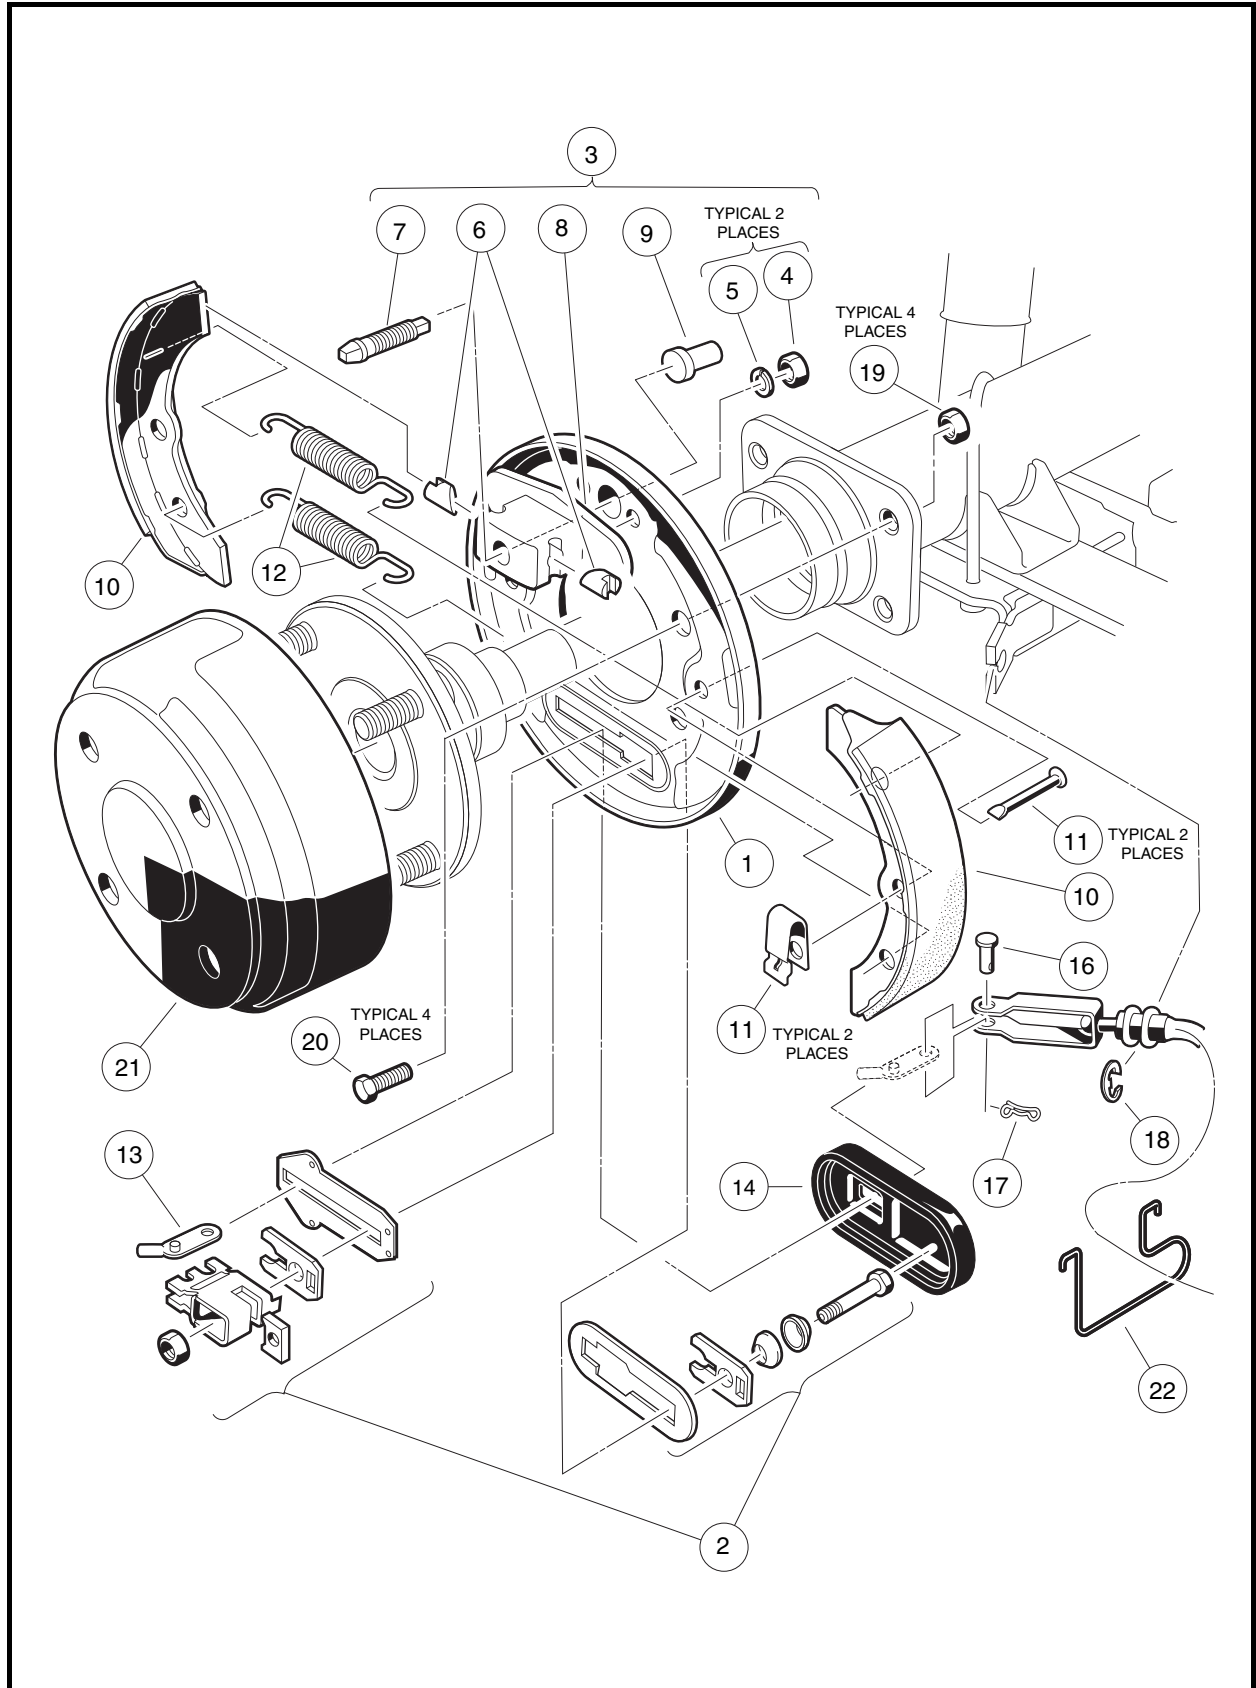

Figure 6-31 Rear Manually-Adjusted Brake Assembly
5. Remove cotter pin (17) and clevis pin (16) from brake cable (**Figure 6-31, Page 6-14 or Figure 6-11, Page 6-5**).
6. Remove 4 bolts (20) and cone lock nuts (19) that mount the brake assembly to the transaxle (**Figure 6-31, Page 6-14 or Figure 6-11, Page 6-5**).
2. Be sure bolts (20) and new cone lock nuts (19) are used to mount the brake assembly (**Figure 6-31, Page 6-14 or Figure 6-11, Page 6-5**).